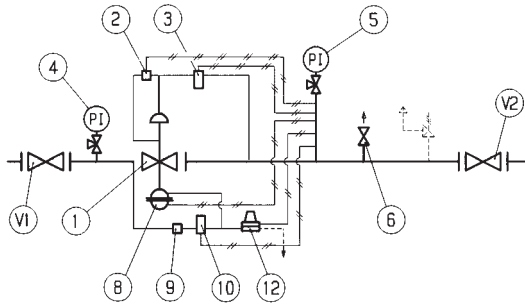

Fig. 25
5.5 MESSA IN SERVIZIO REGOLATORE APERFLUX 851 CON MONITOR INCORPORATO PM/819 E VALVOLA ACCELERATRICE (FIG. 25)
5.5 COMMISSIONING THE REGULATOR APERFLUX 851 WITH INCORPORATED PM/819 MONITOR AND ACCELERATING VALVE (FIG. 25)
5.5 INBETRIEBNAHME DES REGLERS APERFLUX 851 MIT INTEGRIERTEM MONITOR PM/819 UND SCHLIESSBESCHLEUNIGER (FIG. 25)
5.5 MISE EN SERVICE DU DÉTENDEUR APERFLUX 851 AVEC MONITOR INCORPORÉ PM/819 ET VANNE D'ACCÉLÉRATION (FIG. 25)
5.5 PUESTA EN SERVICIO DEL REGULADOR APERFLUX 851 CON MONITOR INCORPORADO PM/819 Y VÁLVULA ACELERADORA (FIG. 25)
5.5 ATIVAÇÃO DO REGULADOR APERFLUX 851 COM MONITOR INCORPORADO PM/819 E VÁLVULA ACELERADORA (FIG. 25)